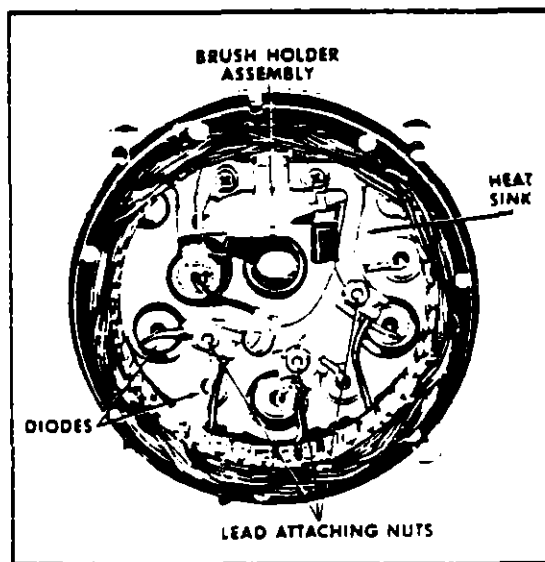

FIGURE 9-18. SLIP RING END FRAME
b. Stator Checks - To check the stator windings, remove all three stator lead attaching nuts (Figure 9-18), and then separate the stator assembly from the end frame. The fit between stator frame and end frame is not tight, and the two can be separated easily.